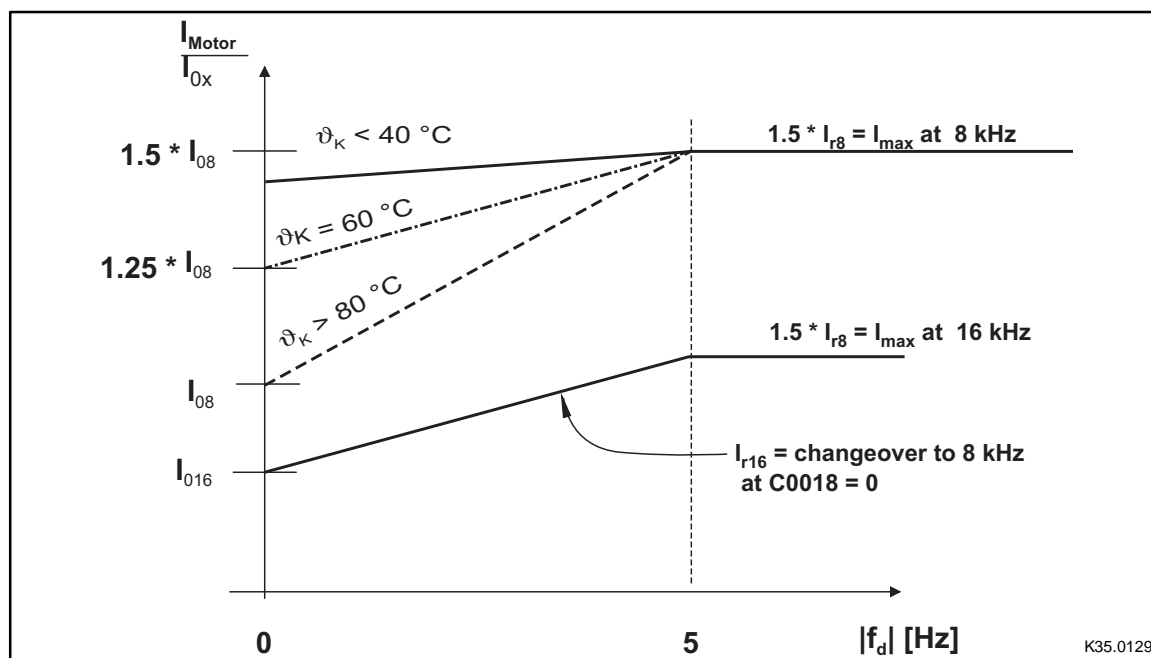

Fig. 6-2
- The current limit is derated according to the heat sink temperature (see Fig. 6-2).
- Below the threshold, the controller operates with 16 kHz (optimum noise). The function of the current limitation follows the characteristic "Imax 16 KHz" (see Fig. 6-2).
- If the machine requires a higher torque, for example for acceleration, the controller automatically switches to 8 kHz (optimum power). The function of the current limitation follows the characteristic "Imax 8 KHz" (see Fig. 6-2).